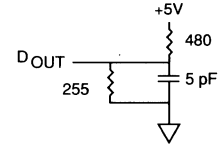

Fig. 2 OUTPUT LOAD EQUIVALENT
6. tHZCE, tHZOE and tHZWE are specified with CL = 5pF as in Fig. 2. Transition is measured ± 500mV from steady state voltage.